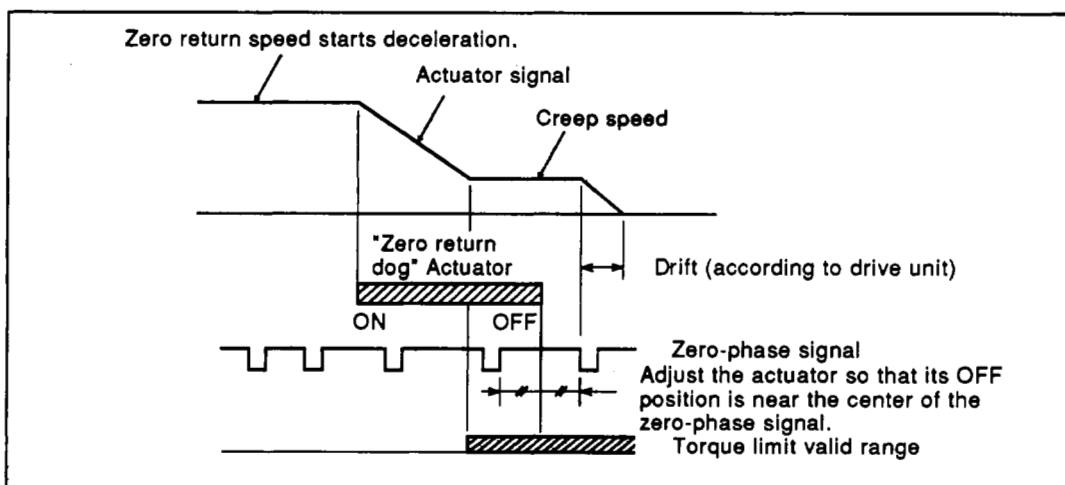

Fig. 3.14 Zero Return and Creep Speeds
(3) Zero return address
(4) Zero return speed
- Sets the zero return speed. (Refer to Fig. 3.14.)
(5) Creep speed
- The creep speed is low-speed until stopped after decelerating from the zero return speed by the zero return point dog being ON during zero return. (Refer to Fig. 3.14.)